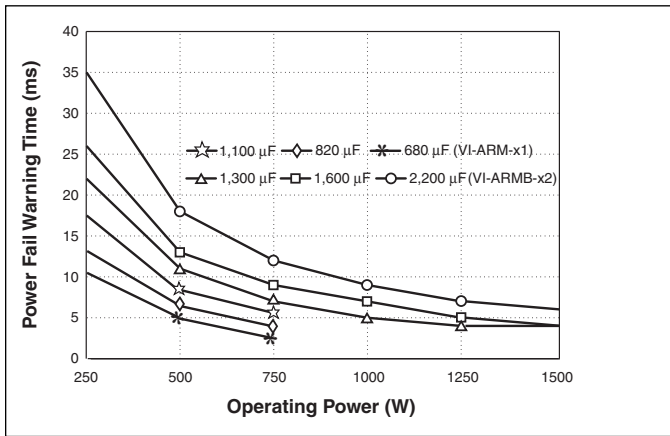

Figure 7-8 — Power fail warning time vs. operating power and total bus capacitance, series combination of C1, C2 (Figure 7-3)
Calculated values of bus capacitance for various hold-up time, ride-through time, and ripple voltage requirements are given as a function of operating power level in Figures 7-8, 7-9, and 7-10, respectively.
**Determining Required Capacitance for Power Fail Warning.** Figure 7-8 is used to determine capacitance for a given power fail warning time and power level, and shows that the total bus capacitance must be at least 820  $\mu$ F. Since two capacitors are configured in series, each capacitor must be at least 1,640  $\mu$ F.